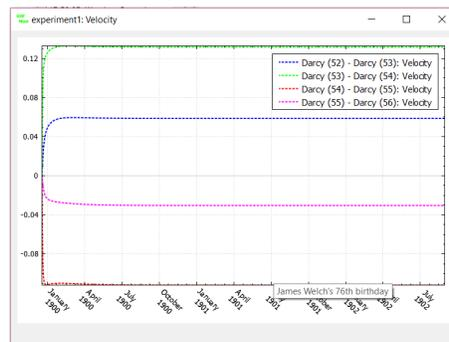

Figure 2.5: Darcy flux in select blocks
- Right-click on connectors of your choice and select **Velocity** from the drop-down menu. Figure 2.5 shows the flow rate in connectors connecting *Storage(54)* to *Darcy(57)*. This shows the Darcy flux in the connectors.